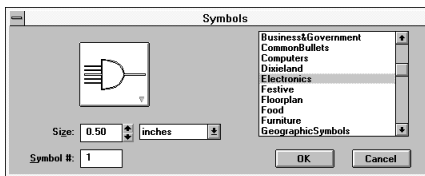

Fig. 3
3. The cursor now appears in the form of crosshairs. Click the mouse while the crosshair is approximately centered on the page. The symbols screen will now appear as shown in **Figure 3**.
4. Select the electronics category on the far right by clicking the mouse on the word electronics. The screen will look as it does in **Figure 3**. A pictorial of a 5 input AND gate will appear, click on the five input AND gate once.